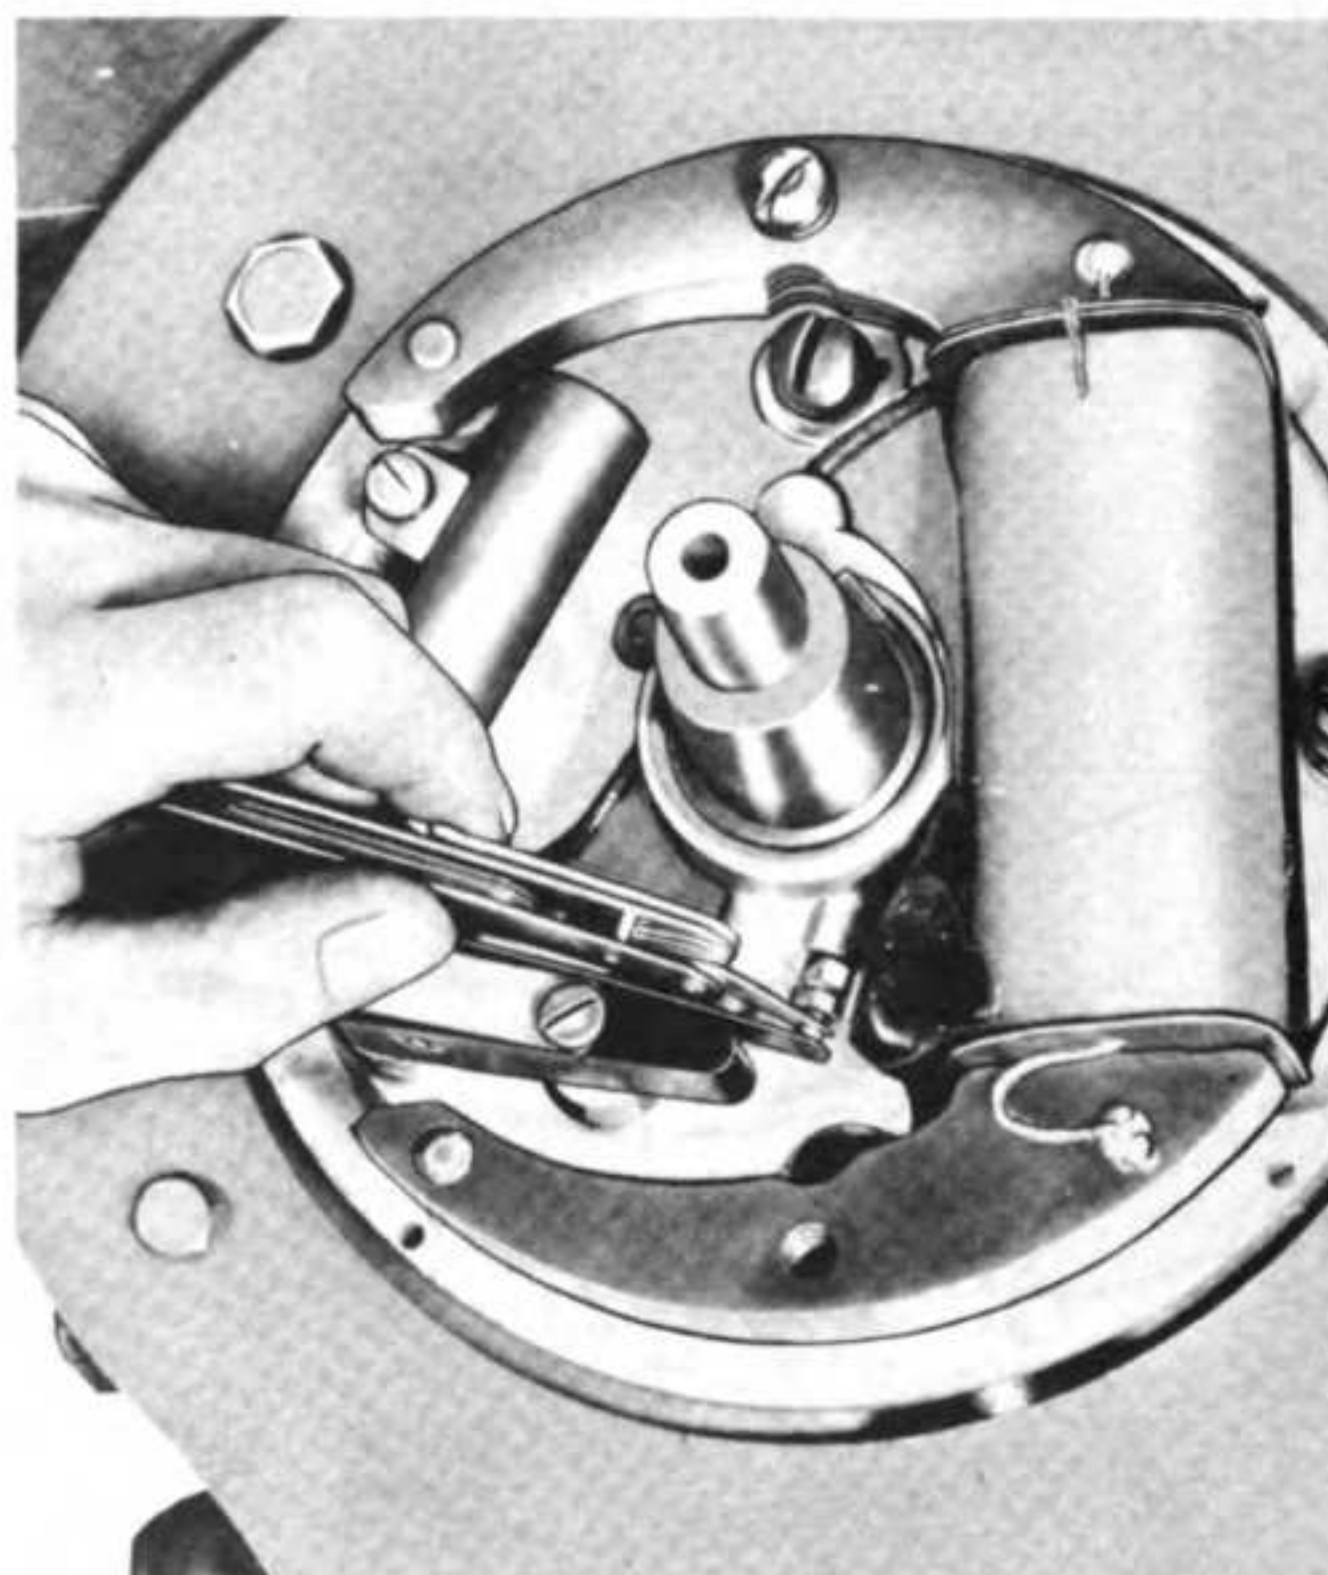

Figure 49—Inspecting Contact Point Gap
- (5) To adjust contact tension, proceed as follows:
- (c) Turn the contact screw to secure .020-inch gap between points; tighten the lock nut against the lock-washer. (See figures 49 and 50.)